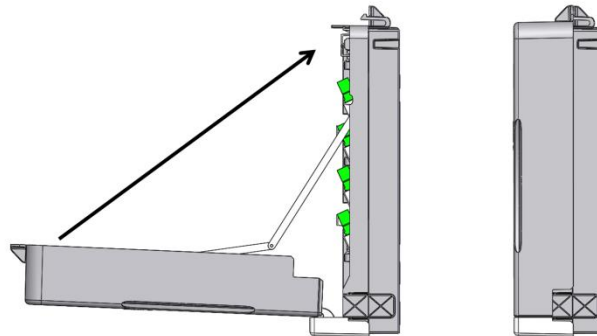

Fig. 42
3.12.1. To close the box, lift the lid and lock the plastic cover in place (Fig.42)